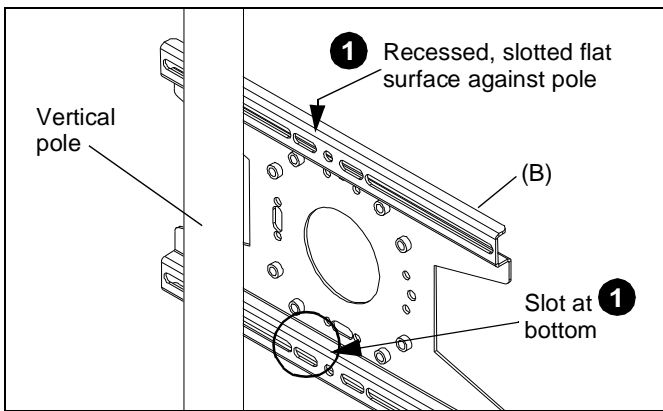

Figure 1
1. Verify truss plate (B) is properly oriented for installation. (See Figure 1)